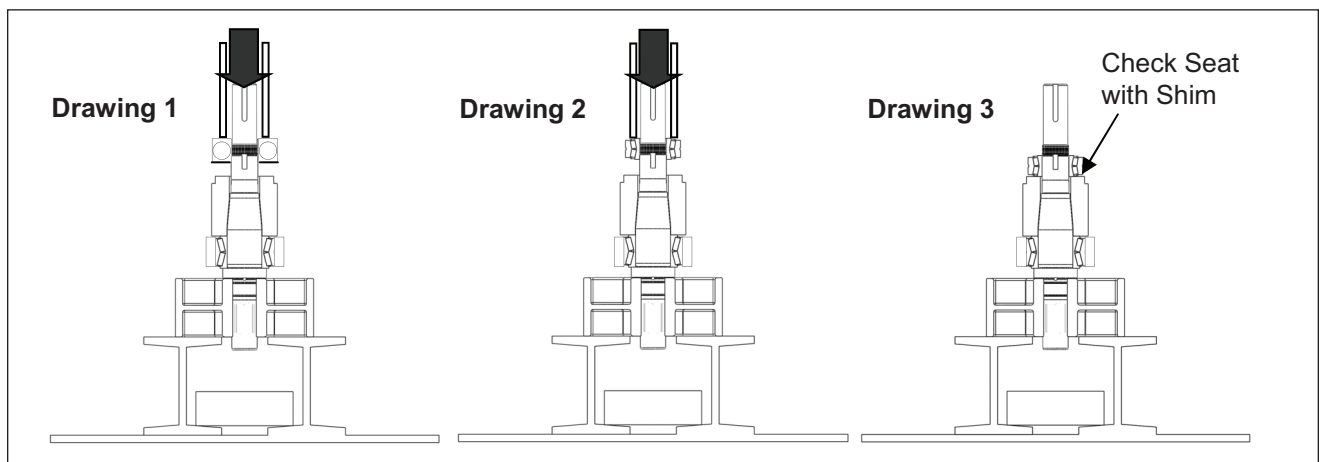

Figure 50. Pressing Rear Bearing onto Shaft
- For pump models with single ball bearings apply a light coat of lubricant on the shaft. Open the new rear bearing assembly and place it over the shaft above the bearing spacer with the shielded side of the bearing facing the spacer (*Figure 50, Drawing 1*). Press the bearing on by pressing only on the inner race.
- For pump models with tapered roller bearings, apply a light coat of lubricant on the shaft. Open the new rear bearing assembly and do not interchange any parts. Place the rear bearing over the shaft above the bearing spacer (*Figure 50, Drawing 2*). Reference Table 5 for the required force (in tons) needed to press the bearing onto the shaft. Using a sleeve that rests on the inner cone of the bearing and rides over the shaft, press the bearing on until it seats against the spacer.
- Make sure the bearing is rested on the bearing spacer using a shim (*Figure 50, Drawing 3*).